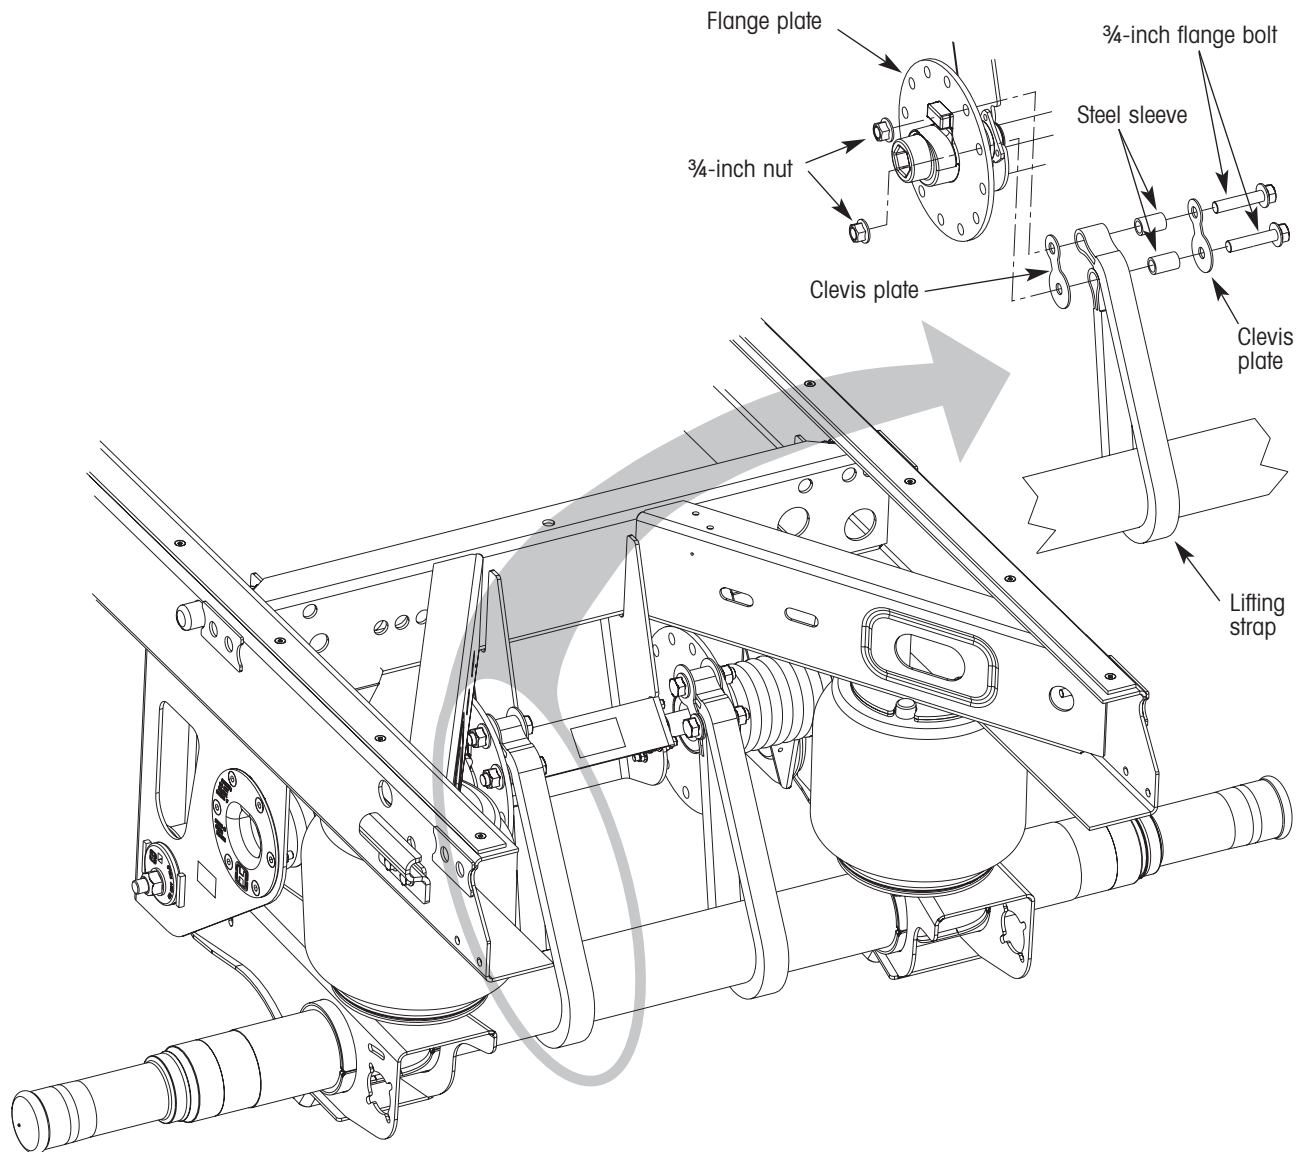

Figure 31. Removing/installing the lifting strap
1. Make sure the steel sleeve is in place in both lifting strap ends (figure 31). Loop the replacement strap around the axle.